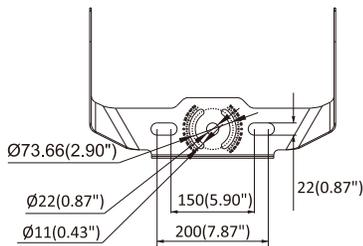

Fig. 2
1. If required, drill holes into the mounting surface. Refer to yoke mounting hole diagram (Fig. 2).